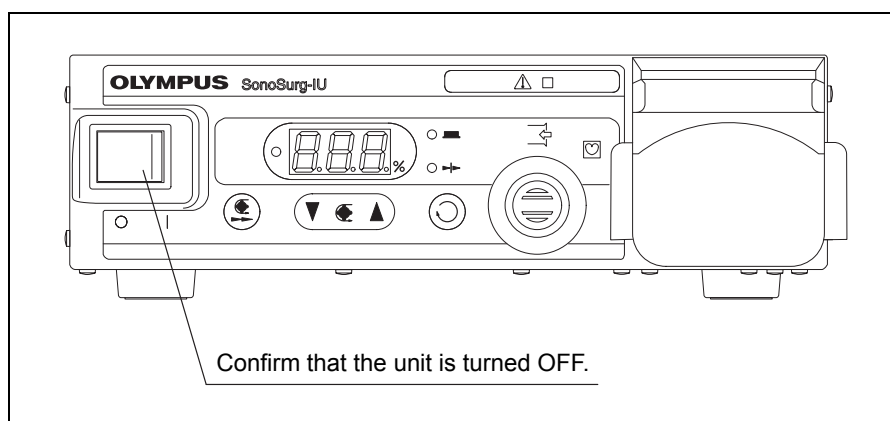

Figure 3.1
1. Confirm that the irrigation unit is turned OFF (see Figure 3.1).